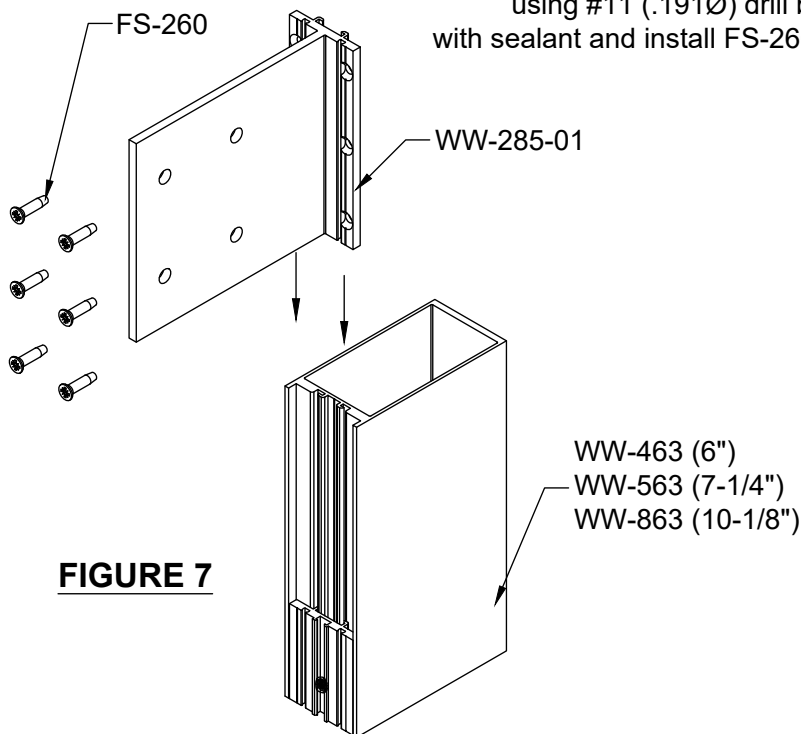
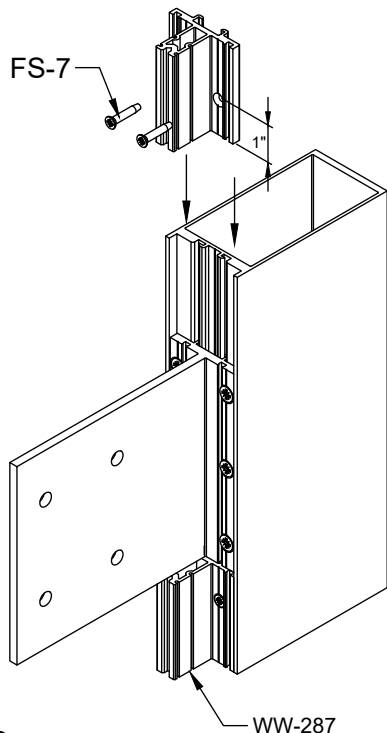

FIGURE 7
FIGURE 9
- 4) After the WW-285 anchor is in its proper location, match drill mullion for anchor using a #11 (.191Ø) drill. Inject sealant into holes prior to installing fasteners. Attach with (6) FS-260 (1/4"-20 x 1" Flat Head Type F) fasteners. Cap seal all fasteners. See FIGURE 7 & 8.
- 6) Optional captured adaptors are also available. WW-287 will be the standard captured glazing adaptor and WW-289 may be used for thermal composite applications. Attach captured adaptors using the FS-7 fasteners at each side of adaptor at 24" on center and 1" from each end. See FIGURE 9 & 10. Figures below show installation of a captured glazing adaptor above and below a sunshade anchor. An 1/8" joint should be held above and below anchor. Slide adaptors onto mullion as required for project starting at bottom of mullion and working to top. Attach anchor as shown on page 8, FIGURE 7 & 8.